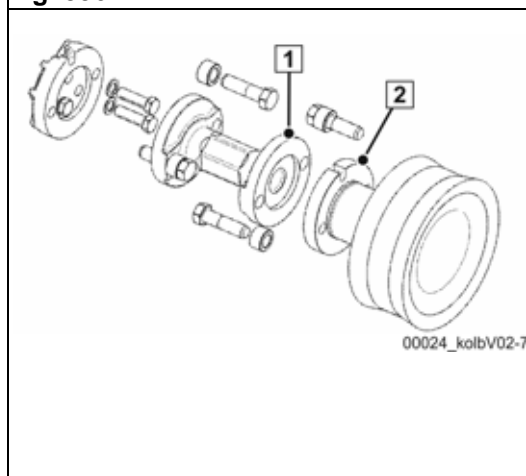
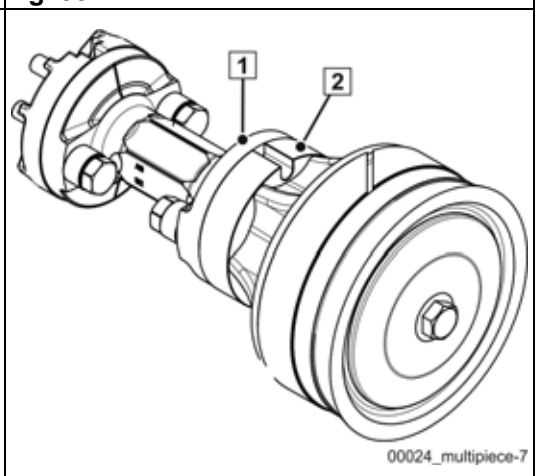

Fig. 358
Fig. 359 Multi-piece
- Connect the piston rod flange (1) to the pumping piston flange (2) using a screw and nut as shown in (Fig. 358) / (Fig. 359).
(Fig. 359) depicts the “Multi-piece” variant.
- Pull the piston out of the cylinder (**Fig. 359**).